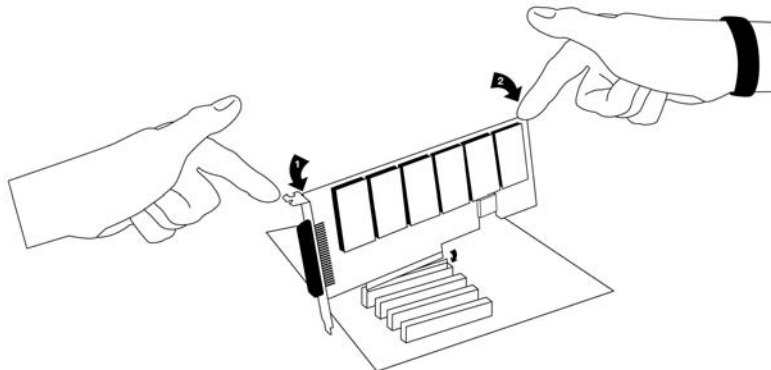

Figure 6: Insert the Card
- Figure 6: Insert the Card26
3. Remove the bracket place holder and insert the card into a 3.3 or 5 volt PCI slot (PCI 2.2 or greater). See Figure 6.